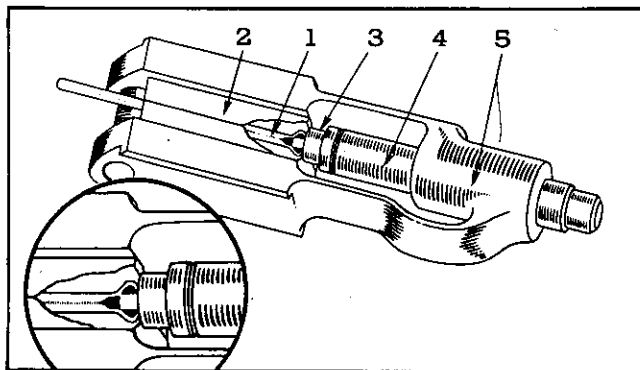

Fig. 13—Upsetting Tubing End.
- (g) Now strike end of punch ram several blows with hammer or until stop shoulder of flare forming tool touches die block. This upsets the end of tubing as shown in Fig. 13 and completes first flare forming operation.
- (h) Pull punch ram back and reverse the flare forming tool (3) so that tapered end of tool is toward tubing. Move punch ram toward